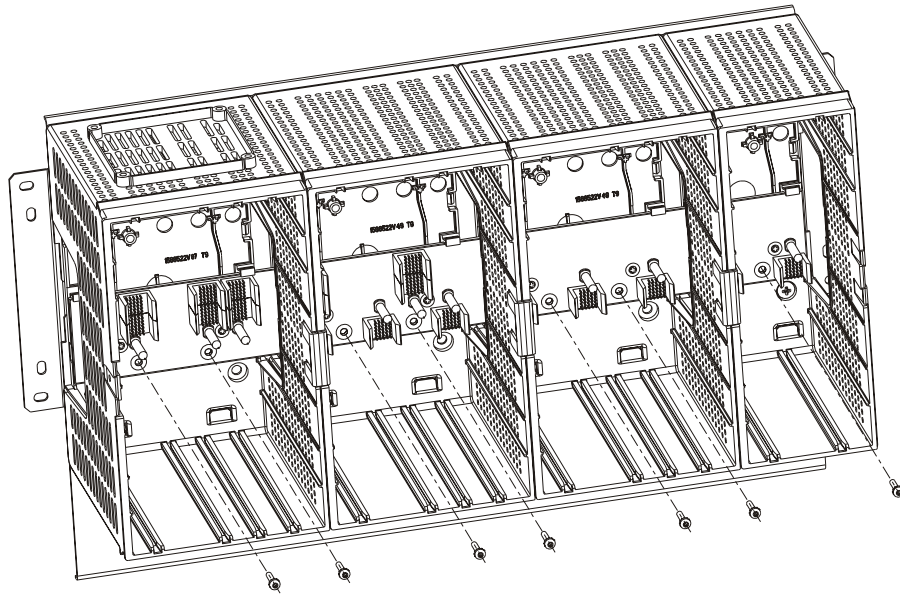

Figure 21-2 ACE3600 Motherboard on Metal Chassis
3. Unscrew the M5 screws on each side which secure the motherboard to the metal chassis. Save the screws. See Figure 21-2.